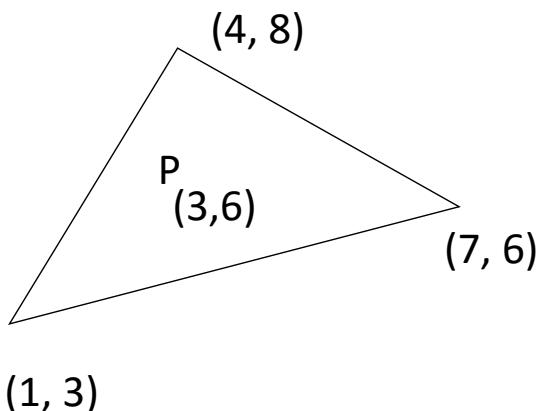

Fig. 6b
b) For the CST element shown in Fig. 6b, determine the shape function values at point P. Also obtain the strain-displacement matrix. 8